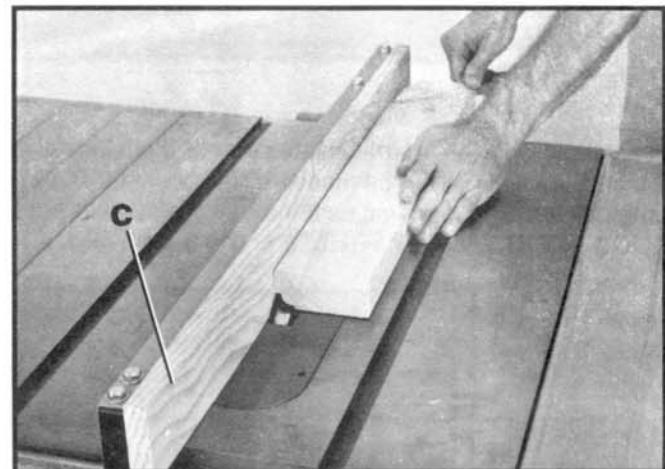

Fig. 64
It is necessary when using the moulding cutterhead to add wood-facing (C) to one or both sides of the rip fence, as shown in Fig. 64. The wood-facing is attached to the fence with wood screws through the holes provided in the fence. 3/4 inch stock is suitable for most work although an occasional job may require 1 inch facing.
Position the wood-facing over the cutterhead with the cutterhead below the surface of the table. Turn the saw on and raise the cutterhead. The cutterhead will cut its own groove in the wood-facing. Fig. 64, shows a typical moulding operation. **NEVER USE MOULDING CUTTERHEAD IN A BEVEL POSITION.**